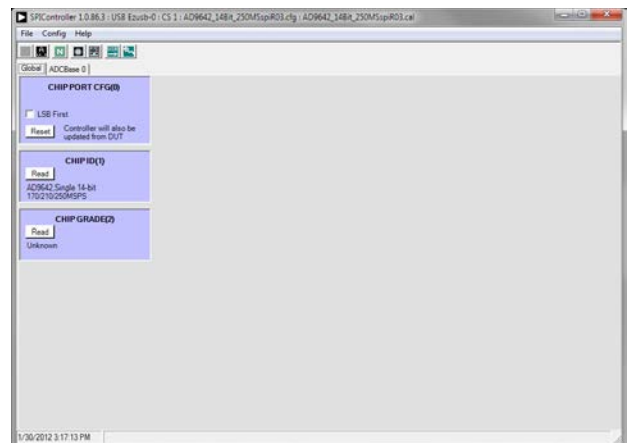

Figure 8. SPI Controller, CHIP ID(1) Section
1. Open the SPI controller software by going to the **Start** menu or by double-clicking the **SPIController** software desktop icon. If prompted for a configuration file, select the appropriate one. If not, check the title bar of the window to determine which configuration is loaded. If necessary, choose **Cfg Open** from the **File** menu and select the appropriate file based on your part type. Note that the **CHIP ID(1)** section should be filled to indicate whether the correct SPI controller configuration file is loaded (see Figure 8).